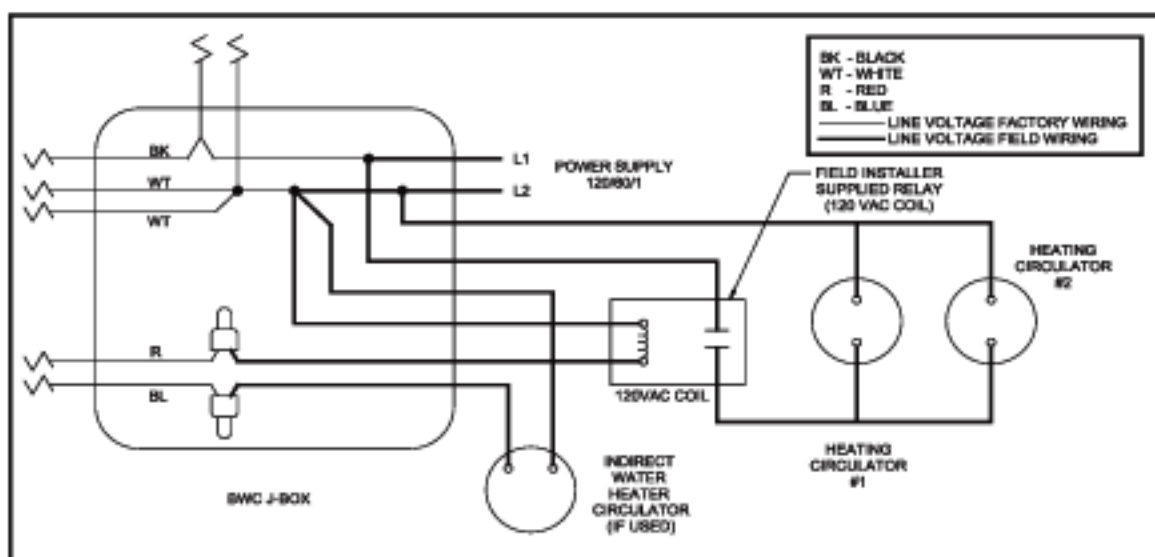

Figure 9.3: Wiring of Isolation Relay for Control of Two Heating Circulators
- 2) Maximum circulator continuous current draw is 2A. When Piping Method #1 is used, it may be desirable to use the boiler to directly control the primary circulator in addition to the secondary circulator. If this is done, control both heating circulators using a relay with a 120VAC coil, such as a Honeywell R4222, as shown in Figure 9.3. Select a relay with a contact rating in excess of the combined draw of the two circulators.